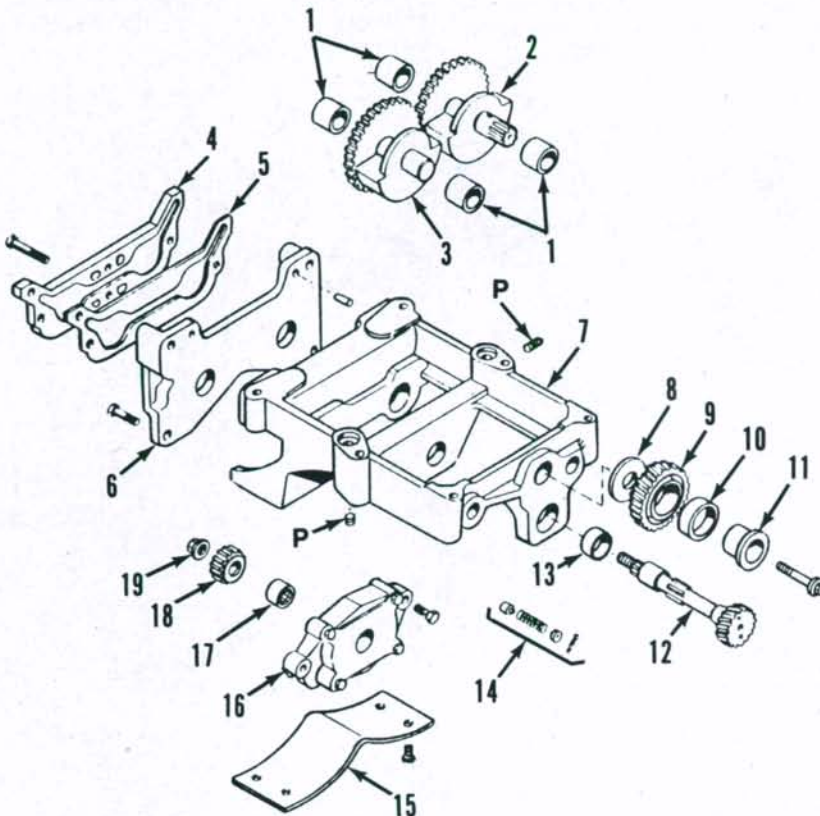

Fig. 110—Exploded view of engine balancer and engine oil pump used on late production engines (engine S.N.U880190K and after).
**104. OVERHAUL.** Refer to Fig. 110 for an exploded view of balancer assembly. To disassemble the removed balancer unit, remove cap screw retaining idler gear (9) and hub (11) to balancer frame. Hold the drive shaft gear (12), then remove nut (19) from end of shaft. Withdraw drive shaft and balancer drive gear (18). Remove cover plate (15). Unbolt and remove oil pump (16) from the frame. Remove cap screws retaining oil transfer plate (4) and end cover (6), then separate plate and cover from frame. Remove the balance weights (2
When renewing balance weight bushings (1—Fig. 110), press new bushings into balancer housing until rear end of bushings is 2.50-2.72 mm (0.098-0.107 inch) below machined surface of housing bore. Press bushings into end cover (6) until front end of bushings is 2.75-3.25 mm (0.108-0.125 inch) below machined surface of cover.
end of drive shaft/gear (12) is located approximately  $11^\circ$  left of vertical as shown. While holding balance weights and drive shaft in timed position, install balancer weight drive gear (18—Fig. 110) onto drive shaft. Apply Loctite 242 to threads of locknut (19), then tighten nut to 95 N·m (70 ft.-lbs.) torque.
Install idler gear (9—Fig. 110) and hub (11) assembly. Tighten retaining cap screw to 75 N·m (55 ft.-lbs.) torque.
**107.** The gerotor type oil pump is mounted in the center of engine balancer housing and driven by the balancer drive shaft. To remove oil pump (16—Fig. 110), first remove oil pan and engine balancer as outlined in paragraph 103. Remove balancer idler gear (9). Remove nut (19) and balancer drive gear (18) from drive shaft (12), then withdraw drive shaft from oil pump and balancer housing. Remove oil pump mounting cap screws and lift out the oil pump assembly.
locknut (19—Fig. 110), then tighten nut to a torque of 95 N·m (70 ft.-lbs.). Reinstall idler gear (9) assembly and tighten retaining cap screw to 75 N·m (55 ft.-lbs.) torque.